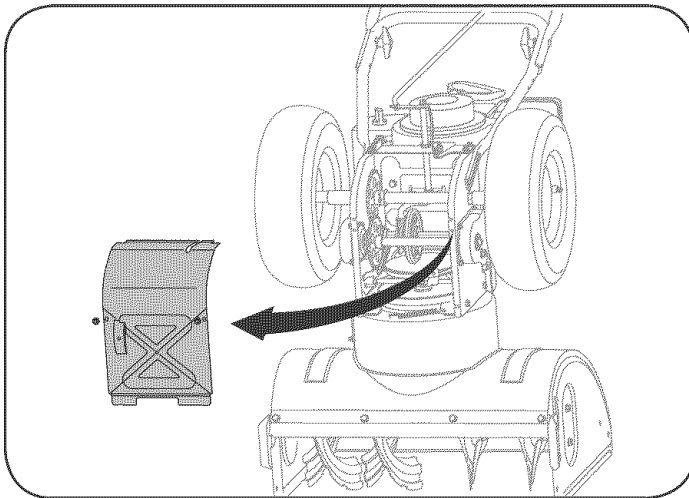

Figure 19
1. Remove the self-tapping screws from the frame cover underneath the snow thrower. Refer to Figure 19.
2. Drain the gasoline from the snow thrower, or place a piece of plastic under the gas cap. Carefully tip the snow thrower up and forward, so that it rests on the housing. Remove the self-tapping screws from the frame cover underneath the snow thrower and move the frame cover away. See Figure 19.
1. With the snow thrower tipped forward (be certain to drain gasoline or place plastic film under the gas cap if the snow thrower has already been operated), remove the frame cover underneath the snow thrower by removing the self-tapping screws. See Figure 19.